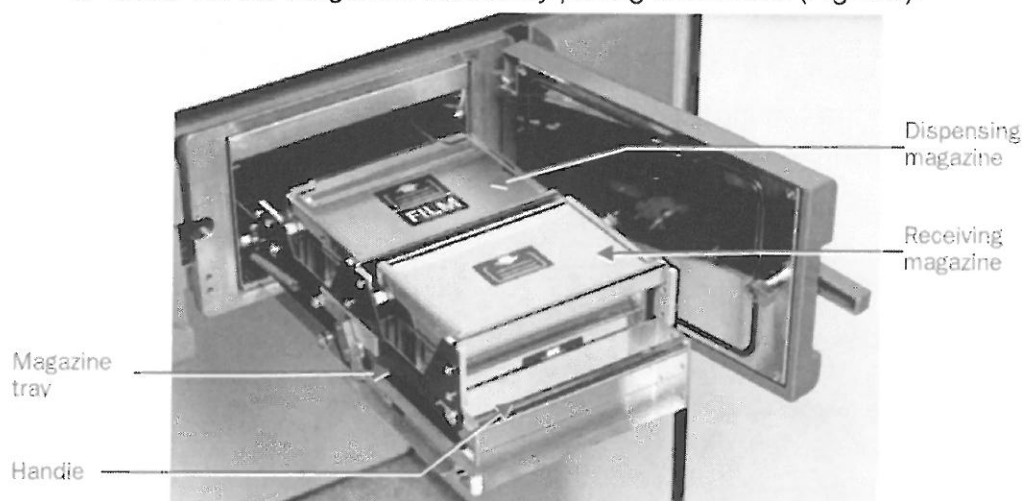

Fig. 5.3 Magazine tray
4. Draw out the magazine drawer by pulling the handle (Fig. 5.3).